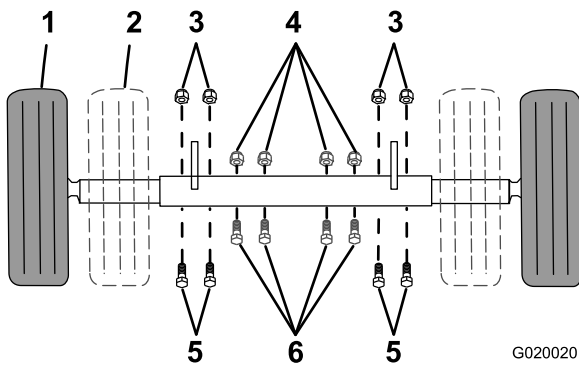

Figure 22
1. Support point (2)
- Remove the bolts and nuts that secure the inner axle to the outer axle (Figure 22).
- Slide each side of the axle inward to the narrow position (Figure 22).
- Slide each side of the axle outward to the wide (tow) position (Figure 22).
- Insert the bolts through the axle holes (Figure 22).